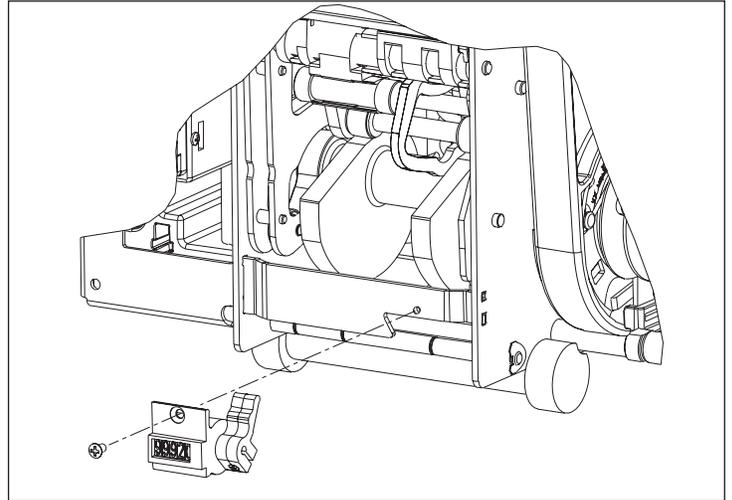

Figure 7. Step 4
**Step 3:** Loosen the counter mounting screw by one turn. Refer to **Figure 7**.